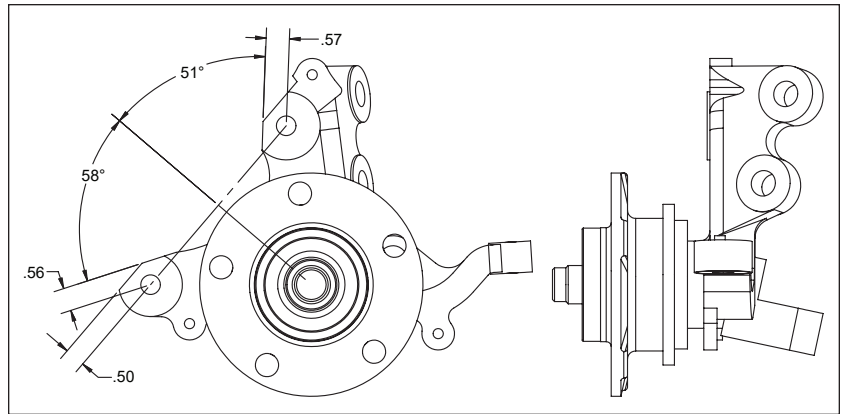

Figure 3. Spindle Modifications
•These modifications should be performed by a qualified machinist. Refer to figure 3, right. Only one view of the spindle is shown, but the modifications need to be performed on both spindles.
•Some material must be removed from the caliper mounting lugs on the OE spindle until .57" (14,5 mm) remains between the center bolt hole and the outer edge of the top lug (figure 3). Remove material on the bottom lug until .56" (14,2) remains on the top tangent and .50" (12,7) on the left tangent (figure 3). After removal, be sure the area is free of sharp edges or burrs. With the caliper and mount bracket in place, check to be sure there is no interference between the mounting lugs on the spindle and the caliper, or caliper bracket.